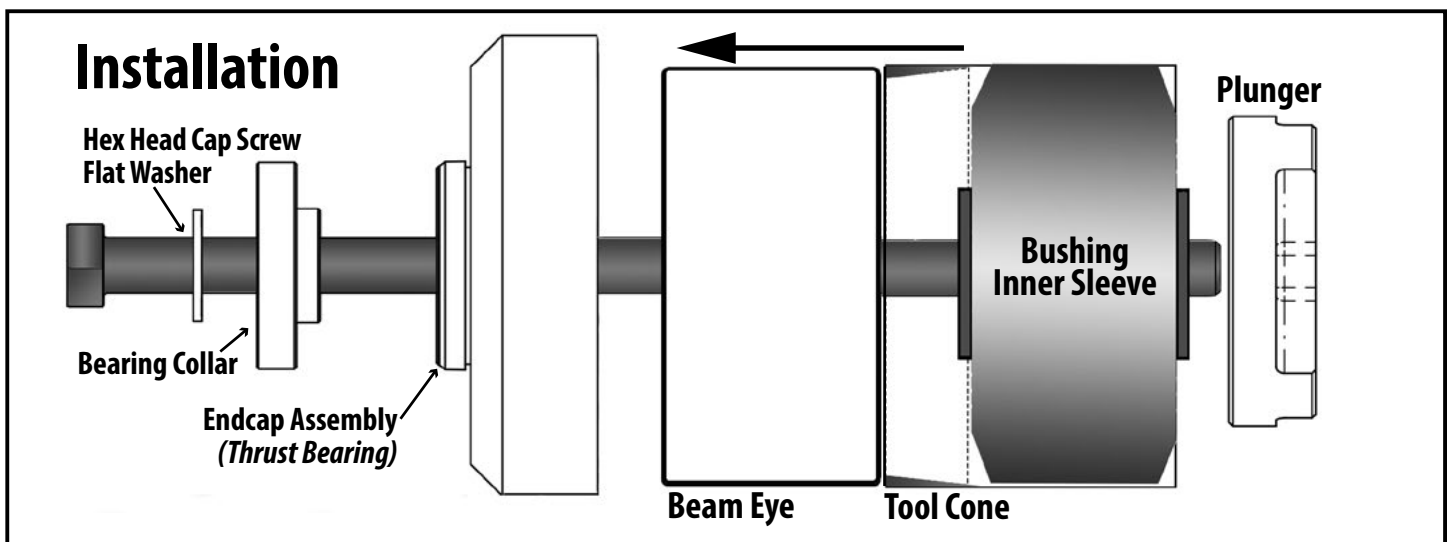

Figure 12.
2. Liberally apply P80[®] lubricant or a soap solution to the inside of the beam eye, the outside of the new bushing and inside the tool cone. Insert new bushing into the larger opening of the tool cone (Figure 12).